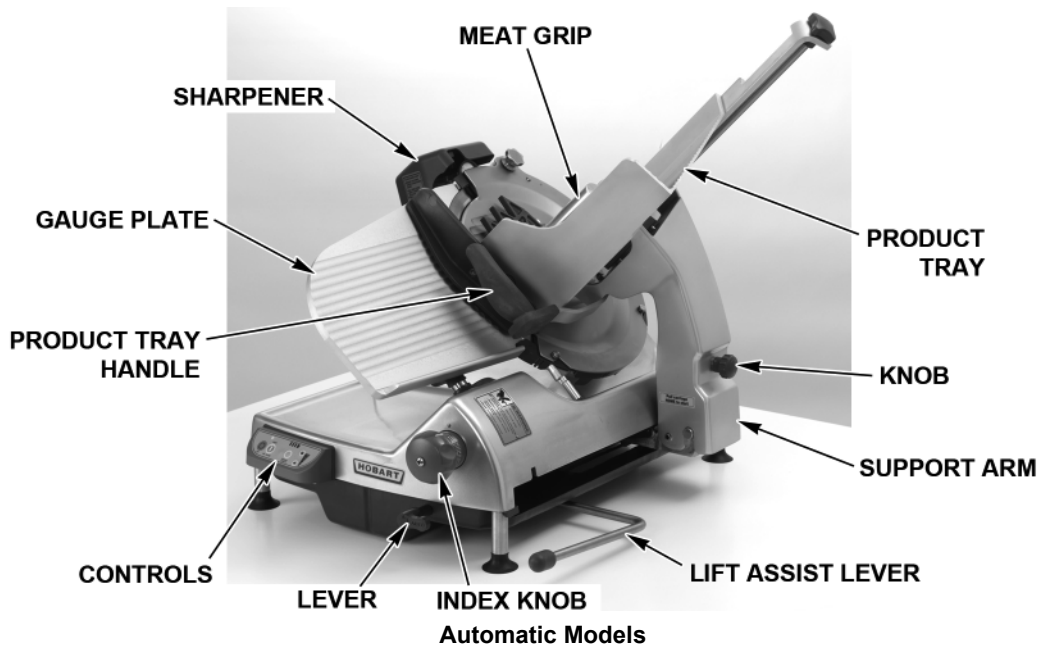
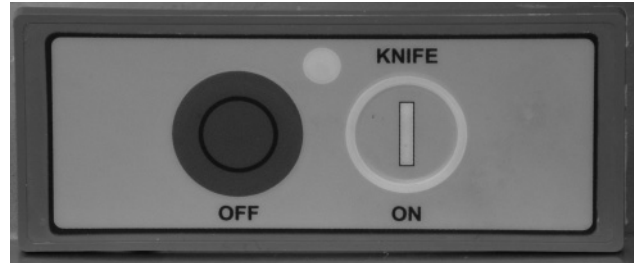
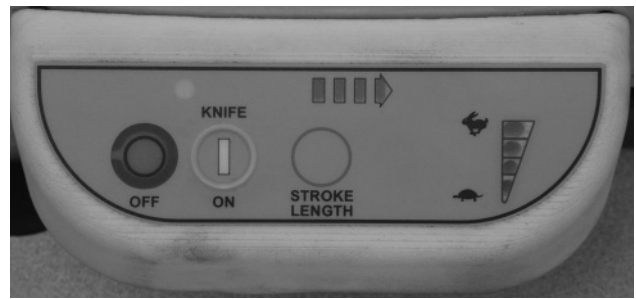

Fig. 1
Fig. 3
Fig. 5
- Gauge Plate Interlock – prevents the Product Tray (Fig. 1) from being tilted or removed unless the Product Tray is in the home position (pulled all the way forward) and the Gauge Plate is closed.
- Home Start – requires the Product Tray (Fig. 1) to be in the home position (pulled all the way forward) before the slicer can be started.
- Close-to-Stop – turns the slicer off when the Gauge Plate is returned to the closed position by turning the Index Knob (Fig. 1) fully clockwise. The slicer also is turned off if the OFF button is pressed.
The Product Tray (Fig. 1) must be installed.
- Close the Gauge Plate (Fig. 1) by turning the Index Knob (Fig. 1) fully clockwise.
- Pull the Product Tray (Fig. 1) toward the operator until it reaches its stop. This is the home position.
- Raise the Meat Grip (Fig. 1) to the top of the Product Tray to rest in the Meat Grip Slot.
- Place the product to be sliced against the Gauge Plate (Fig. 1) on the Product Tray (Fig. 1).
- Turn the slicer on by pressing the KNIFE ON button (Fig. 3).
- Use the Product Tray Handle (Fig. 1) to push and pull the Product Tray back and forth to slice. When finished, pull the Product Tray forward until it stops. Turn the Index Knob fully clockwise to close the Gauge Plate, this will turn the slicer off. The OFF Button (Fig. 3) can also be pressed to stop the slicer.
- Turn the slicer on by pressing the KNIFE ON button (Fig. 5).
- Use the Product Tray Handle (Fig. 1) to push and pull the Product Tray back and forth to slice. When finished, pull the Product Tray forward until it stops. Turn the Index Knob fully clockwise to close the Gauge Plate. This will turn the slicer off. The OFF Button (Fig. 5) can also be pressed to stop the slicer.
- Select one of the four speeds for the Product Tray to move back and forth. Press the Rabbit symbol (Fig. 5) to increase speed; press the Turtle symbol (Fig. 5) to decrease speed. The speed indicator, located to the right of the symbols, shows which speed is selected. The speed can be changed at any time.
- Select a stroke length for the Product Tray to move back and forth. Press the STROKE LENGTH button (Fig. 5) to toggle through the lengths. The indicator above the button shows the length. More lights equal a longer stroke. The stroke length can be changed at any time.
- When finished, turn the Index Knob fully clockwise to close the Gauge Plate or press the KNIFE ON button (Fig. 5) to stop the slicer. This will stop the slicer and return the Product Tray to the home position.